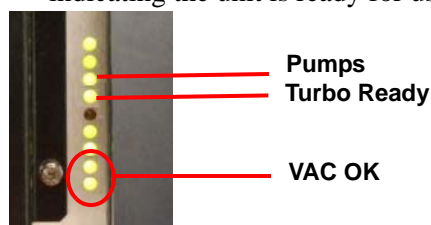

Figure 12 Status indicators.
- 3 Press the **Pumps** switch located on the rear of the unit (refer to Figure 2) to start the backing pump and turbo pump. The **Pumps** indicator will light (refer to Figure 12 below). The pump can also be started via the software.